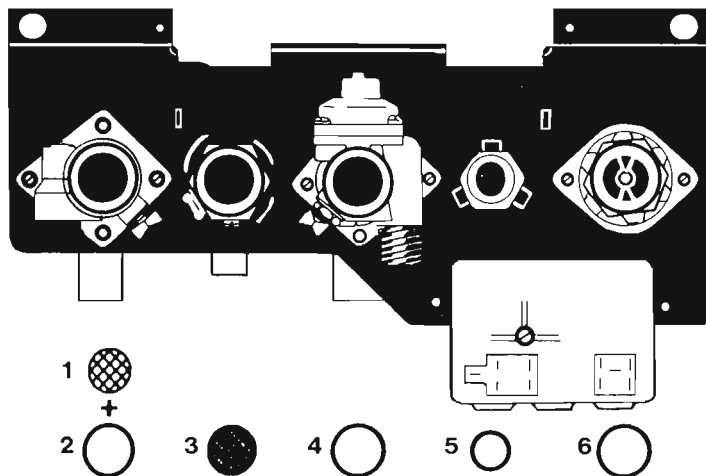

Fig. 10
6.6.4 Sealing washer and filters are provided with the boiler. These **MUST** be used when making the connections between boiler and connecting plate. Fig. 10 identifies and gives the correct location of the filters/washers required.